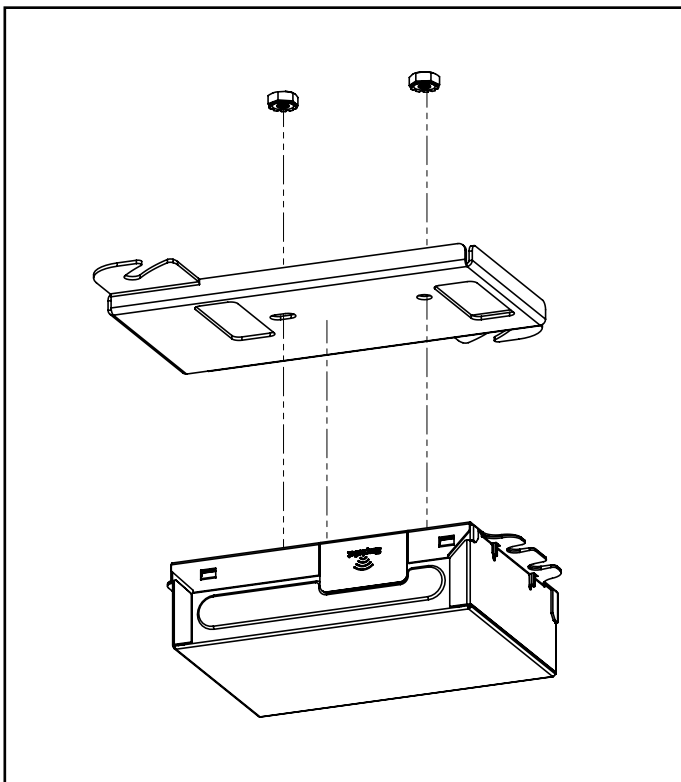

Figure 20
7. Remove two nuts to remove **Driver (E)** from **Driver Enclosure (D)**. Attach new **Driver (E)** to **Driver Enclosure (D)**. (Figure 20)